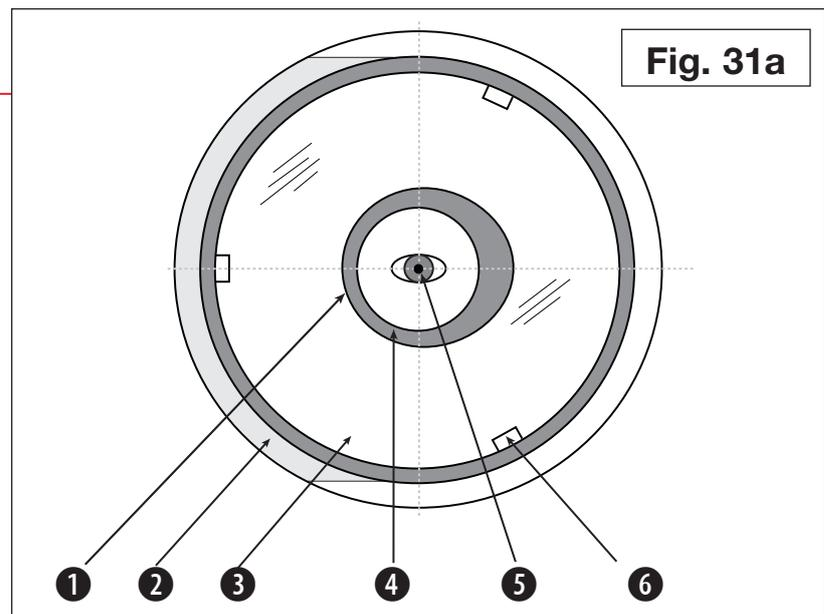

Fig. 31a
Fig. 31a is showing the view through a correctly collimated Newtonian telescope as seen through a focuser without eyepiece.
1. Look through the focuser and rotate the tube in the tube clamps so that the telescope's primary mirror is on your right and the telescope's secondary mirror is on your left. The secondary mirror, as already shown (2, Fig. 31a), appears in the middle. If the secondary mirror is not in the middle, it must be centred by using the 3 adjustment screws and the central retaining screw for the secondary mirror height adjustment which is located in the plastic housing of the secondary mirror.
2. If the reflection of the primary mirror (3, Fig.31a) is not centered on the surface of the secondary mirror, first center it with the 3 adjustment